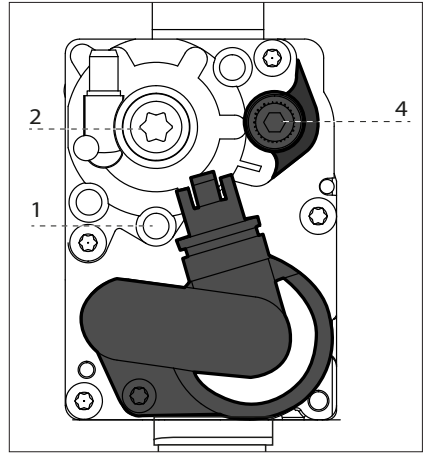

Figure 5 – Gas valve
The boiler gas valve is equipped with a Line Pressure Test Port; see screw 1, Figure 5.
- Loosen screw **1 (Torx 10 - Line Pressure Test Port)**. This port is directly connected to the gas line feeding the boiler. See screw 1, Figure 5.